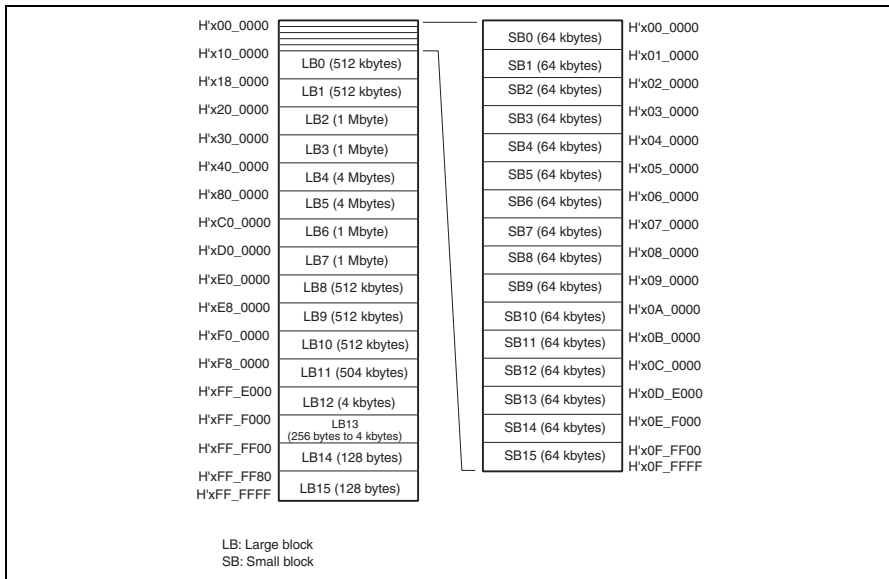

Figure 5.1 Blocks Divided in 16-Mbyte Mode
- Attributes of a memory map can be defined in units of blocks as shown in figure 5.1.